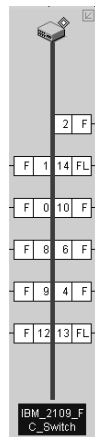

Figure 39. Port assignments
- Expand multi-port devices to show the port assignments. Right-click the device and select **Ports** from the pop-up menu to view the ports. See Figure 39.